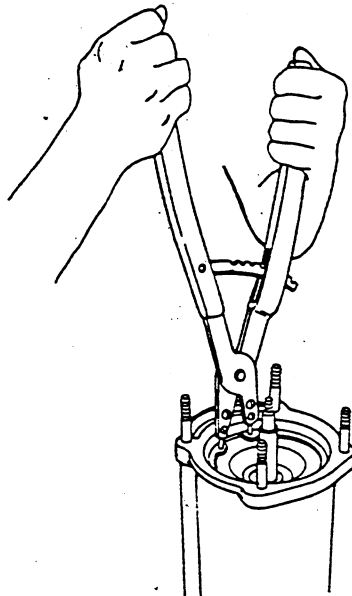

Figure 4. Removing Intermediate Bracket Retaining Ring
With the pump end disassembled and the motor cavity drained, use a large snap-ring pliers to remove the retaining ring (14) which secures the intermediate (16) in the motor housing (21). (See Figure 4). If necessary, tap around the parting surfaces with a soft faced mallet to break the seal between the intermediate and motor housing. Remove the intermediate, and discard the intermediate O-ring (15). Remove the motor bushing (17).